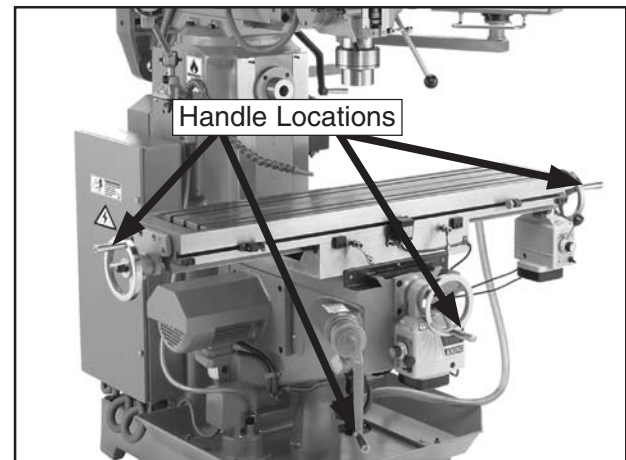

Figure 14. Location of handle installation.
1. Use a flat head screwdriver to install and tighten the four handles onto the three handwheels and one crank, as shown in Figure 14.